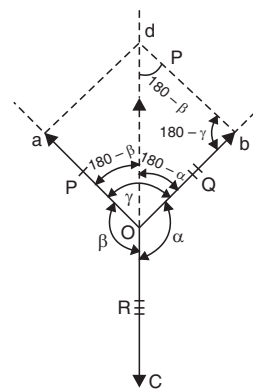

Fig. 2.29
**Proof.** Let us first consider the two forces *P* and *Q* which are represented by the two sides *oa* and *ob* of a parallelogram *oadb* as shown in Fig. 2.29. Then the resultant of these two forces will be given by *od* (the diagonal of the parallelogram) in magnitude and direction. This means *od* should be equal to *R* in magnitude but opposite in direction to *oc* as *P*, *Q* and *R* are in equilibrium.